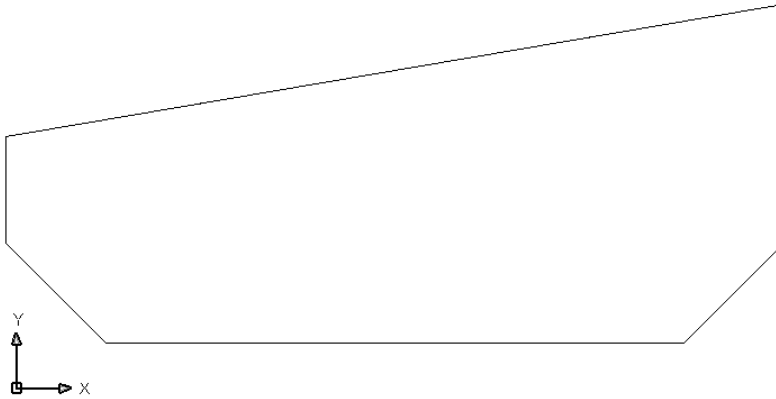

Figure 24-39: The completed solid. Compare it to the model in Figure 24-1.
7. Save your drawing. It should look like Figure 24-39.